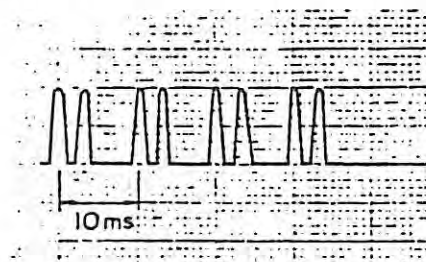

Fig. 16 Unusable waveform
- 1) When obstacle occurs on 1 phase among 3-phase control circuits in the printed circuit board, the waveform shown in Figure 16 appears.